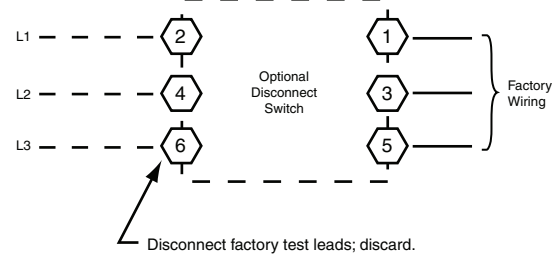

Fig. 17 — Power Wiring Connections
Refer to Fig. 17 for power transformer connections and the discussion on connecting the convenience outlet on page 14.
Field power wires are connected to the unit at line-side pressure lugs on compressor contactor C and indoor fan contactor IFC (see wiring diagram label for control box component arrangement) or at factory-installed option non-fused disconnect switch. Max wire size is #2 AWG (copper only). (See Fig. 17 and 18.)
The factory-installed option non-fused disconnect (NFD) switch is located in a weatherproof enclosure located under the main control box. The manual switch handle and shaft are shipped in the disconnect enclosure. Assemble the shaft and handle to the switch at this point. Discard the factory test leads (see Fig. 17).
All field wiring must comply with NEC and all local codes. Size wire based on MCA (Minimum Circuit Amps) on the unit informative plate. See Fig. 17 and the unit label diagram for power wiring connections to the unit power terminal blocks and equipment ground. Maximum wire size is #2 ga AWG per pole.
2. Install power lines to terminal connections as shown in Fig. 17.